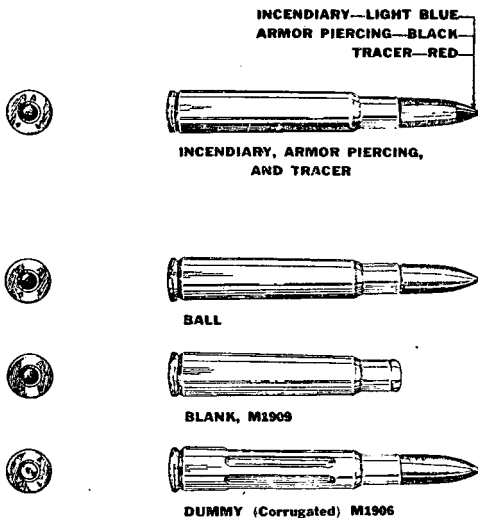

FIGURE 16.—Ammunition.
■ 45. **CLASSIFICATION** (fig. 16).—Based upon use, the principal classifications of ammunition for this rifle are—